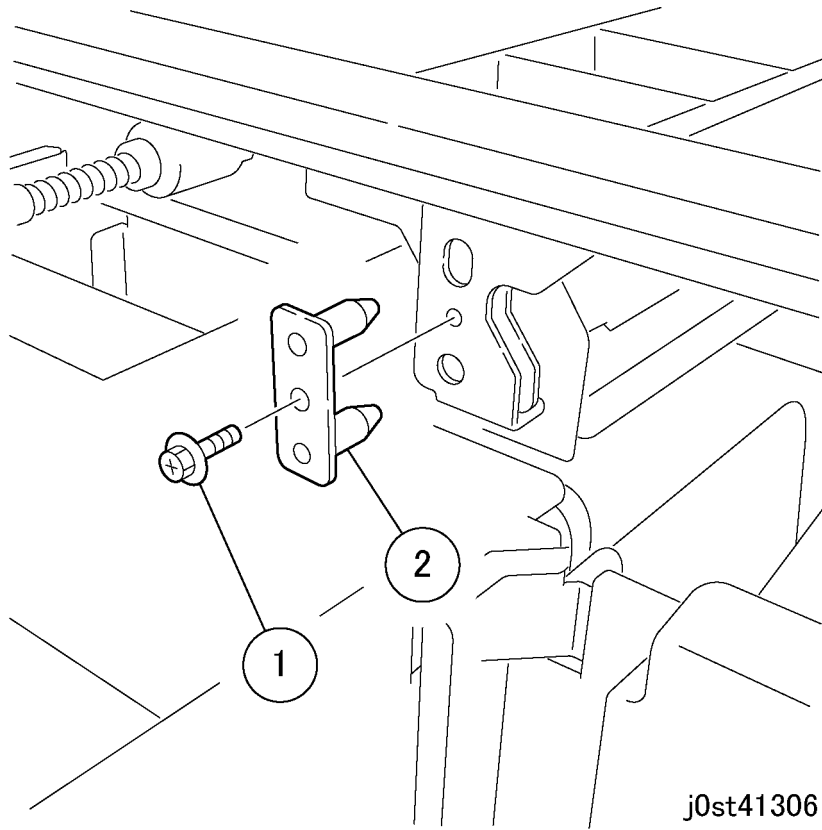

Figure 2 Removing the Stud Bracket (j0st41306)
4. Remove the Stud Bracket. (Figure 2)